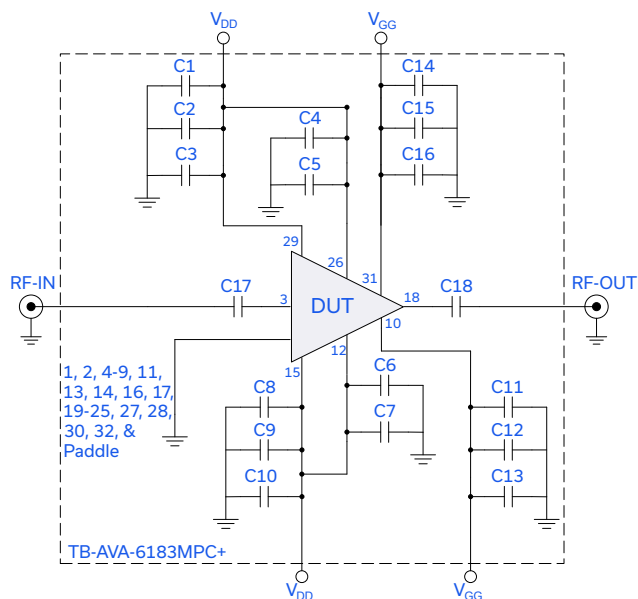

Figure 2. AVA-6183MP+ Evaluation and Application Circuit
1. Tested on Mini-Circuits Characterization Test Board TB-AVA-6183MPC+. See Figure 2. De-embedded to the device reference plane.